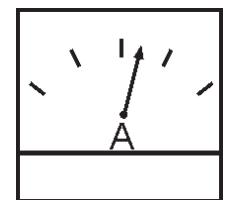

Figure 40. Ammeter (Load)
11. Observe the generator's ammeter (Figure 40) and verify it reads the anticipated amount of current with respect to the load. The ammeter will only display a current reading if a load is in use.